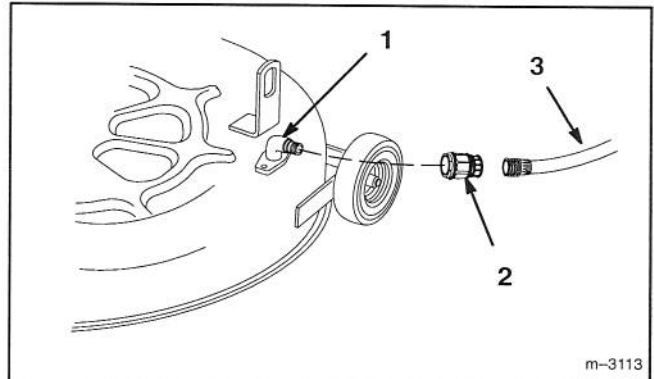

Figure 15
2. Attach hose coupling to the end of the mower washout fitting, turn water on high (Fig. 15).